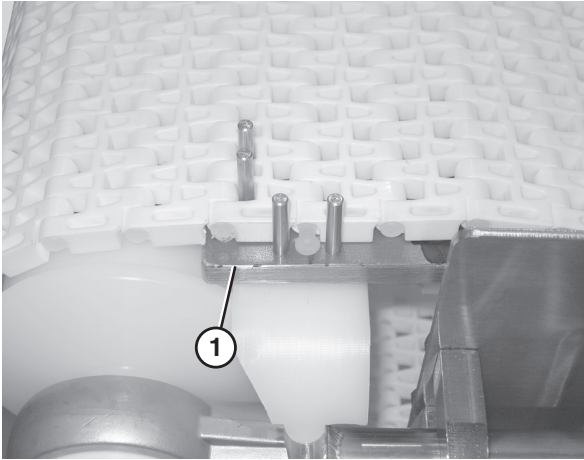

Figure 59
2. Secure the retaining head side of the belt using the belt removal tool (Figure 59, item 1).